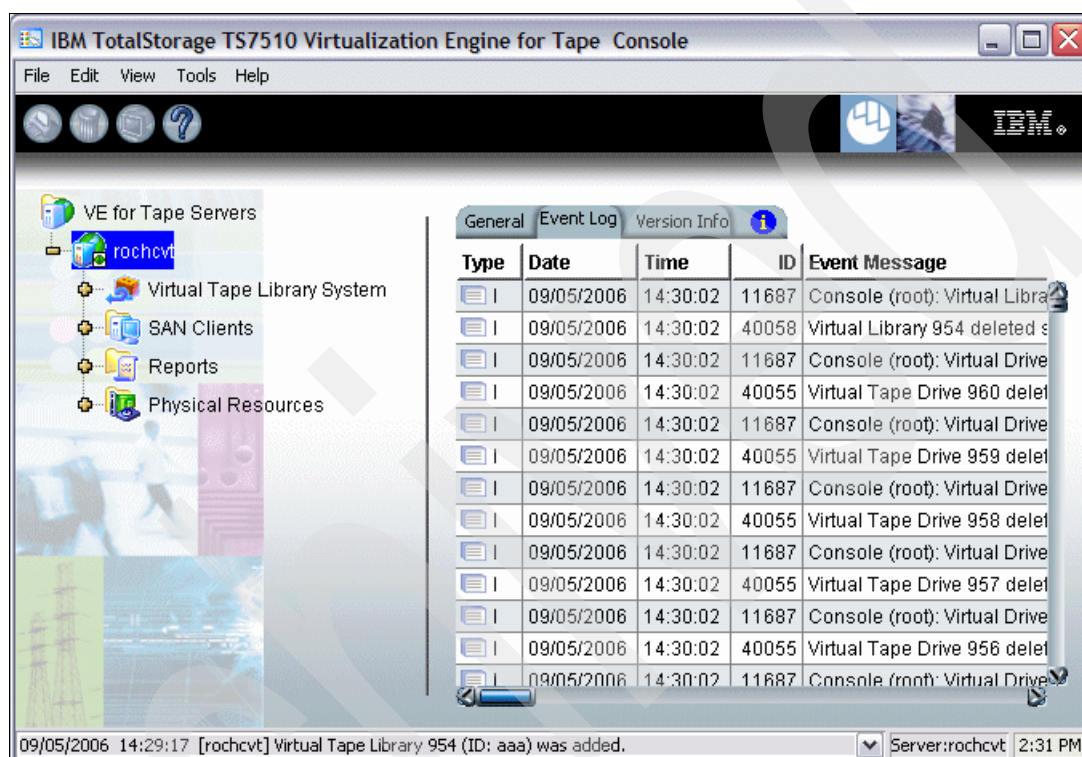

Figure 7-24 IBM Virtualization Engine TS7510: Event Log
2. Select the **Event Log** tab in the right pane. See Figure 7-24.